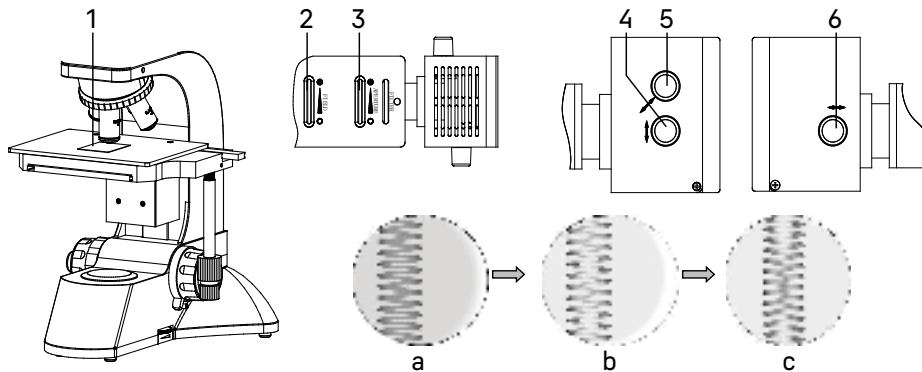

Fig. 15. Centering the light source
1. Place a sheet of white paper 1 (approximately 40x50mm) on the stage as shown in Fig. 15.
3. Open the field 2 and aperture 3 diaphragms (Fig. 15). A brightly illuminated spot will appear on the paper showing the filament, as shown in Fig. 15c.
4. If the filament image is blurry, adjust the position of the collector using the knob 6 (Fig. 15).
5. If the filament image is offset from the center of the light spot, as shown in Fig. 15b, manipulate the lateral alignment knob 4 and the vertical alignment knob 5 (Fig. 15) to center the light source.